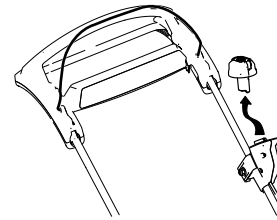

Figure 23
1. Remove the electric-start button (Figure 23).